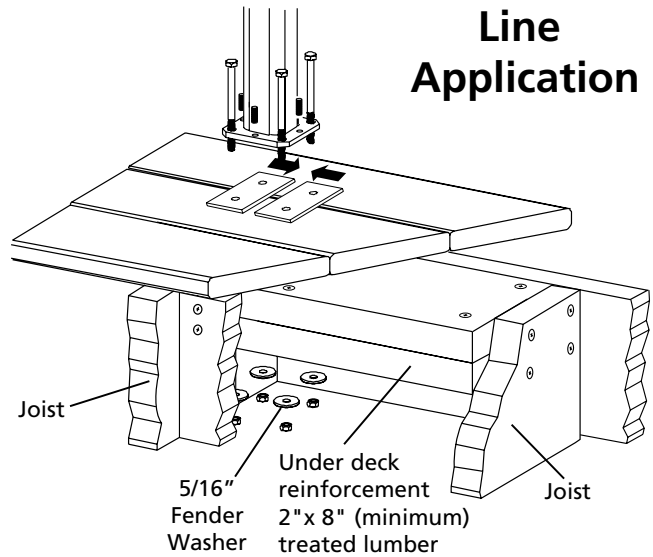

Figure 19
**For Wood: (Fig. 18 - Corner, Fig. 19 - Line)**
8. Fasten the four bolts underneath the reinforcement boards with the 5/16" Fender washer and hex nut (Fig. 19).